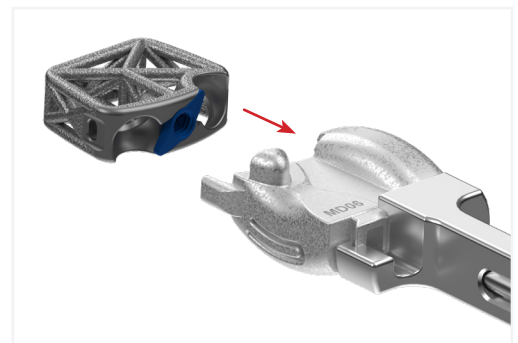

Figure 7
- ▲ Attach the CSTS-SA implant to the Anchor Inserter by threading the Cartridge Draw Rod into the threaded hole of the CSTS-SA interbody's Anti-Backout Plate (Fig. 7).